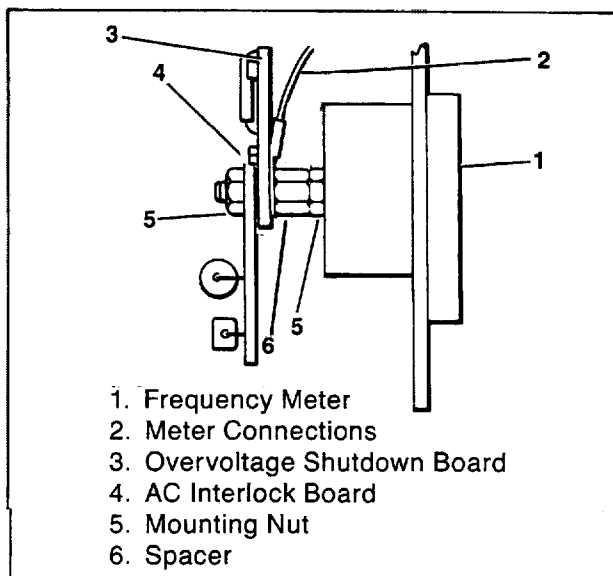

Figure 3. Circuit Board Mounting
4. Install frequency meter connections, overvoltage shutdown board, and AC interlock board as shown in Figure 3.